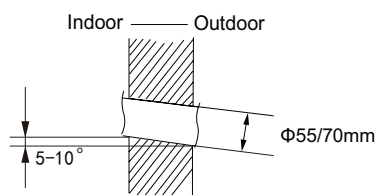

Fig.2
(2) Open a piping hole with the diameter of $\Phi 55/70\text{mm}$ on the selected outlet pipe position. In order to drain smoothly, slant the piping hole on the wall slightly downward to the outdoor side with the gradient of $5-10^\circ$. (As show in Fig.2)